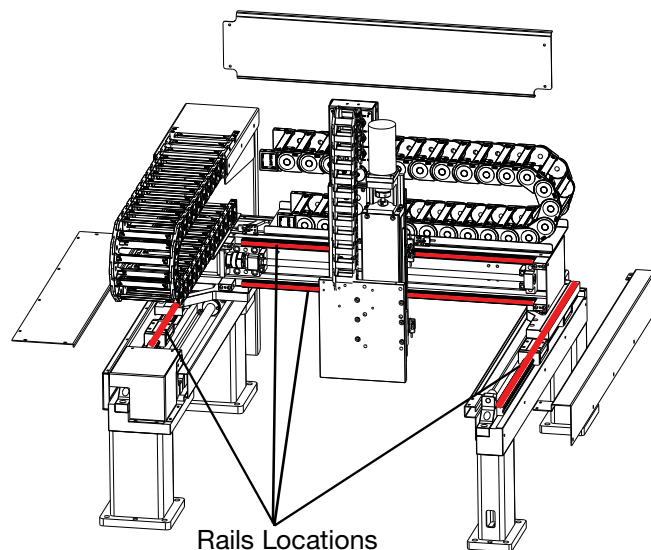

FIG. 35: Guards Remove and Rails Locations
3. After remove the guards apart at each of the four locations, brush oil onto the rails. See FIG. 35.